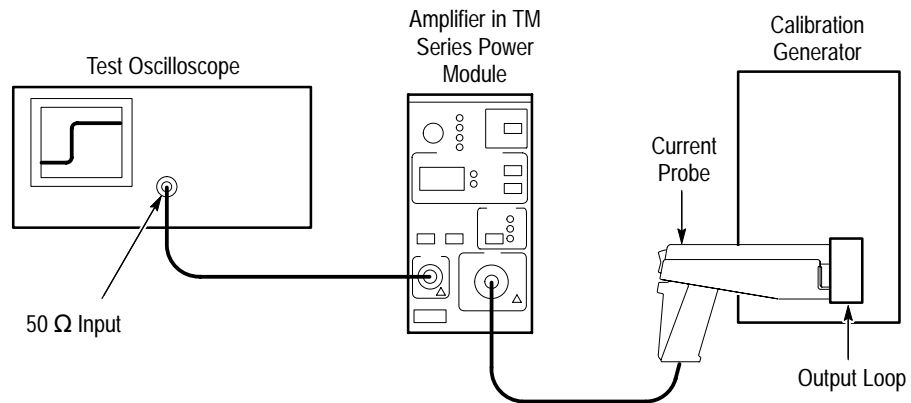

Figure 5–10: Rise Time Test Setup for the A6304XL
This procedure measures the rise time of the A6304XL. In this test you directly measure the rise time of a step input. Refer to Figure 5–10 when making equipment connections.
2. Connect the current loop to the current source as shown in Figure 5–11.
3. Clamp the current probe around the current loop. Check that the arrow-shaped indicator on the probe points away from the current source. (See Figure 5–11 on page 5–41.)